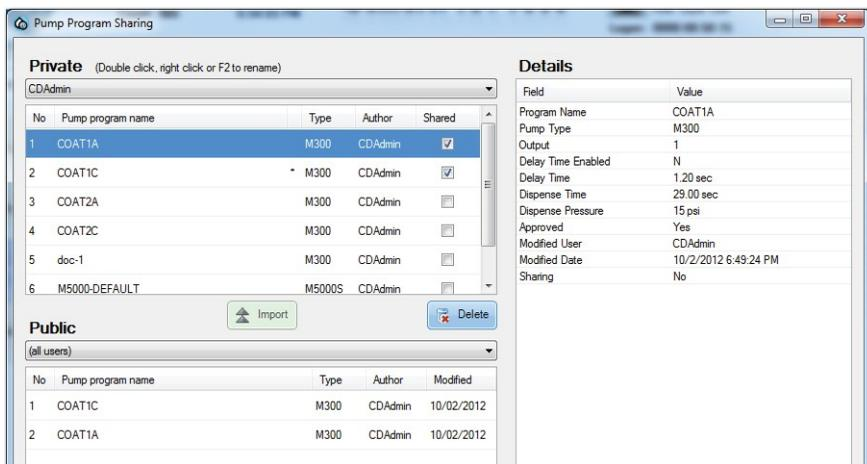

FIGURE 3-15: Sharing arm programs
3. On the Pumps page, click **Share**. The Share Pump Programs dialog box opens. See Figure 3-15.